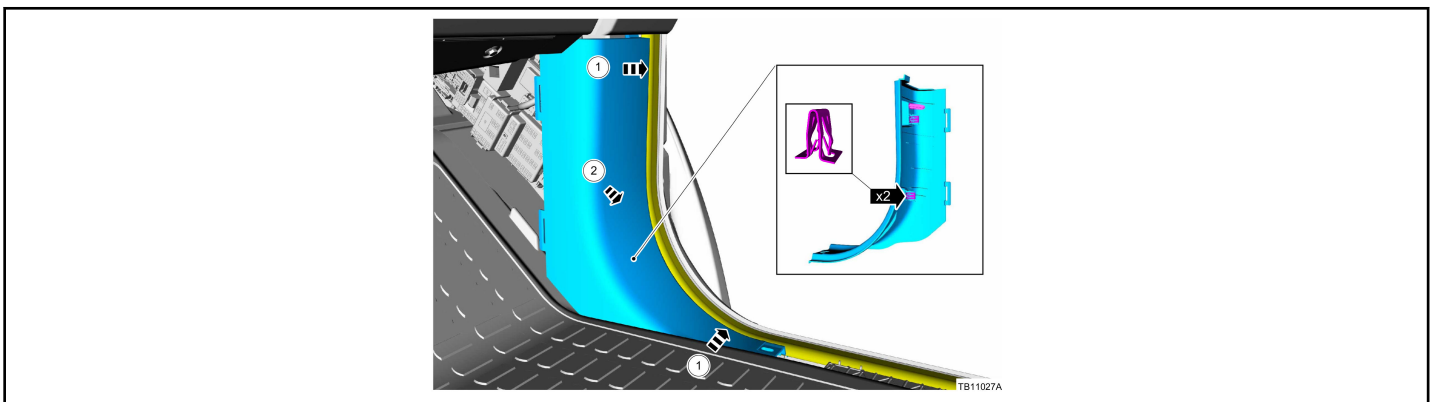

Figure 4 - Article 17-0013
7. Remove the right side lower cowl trim panel. (Figure 4)